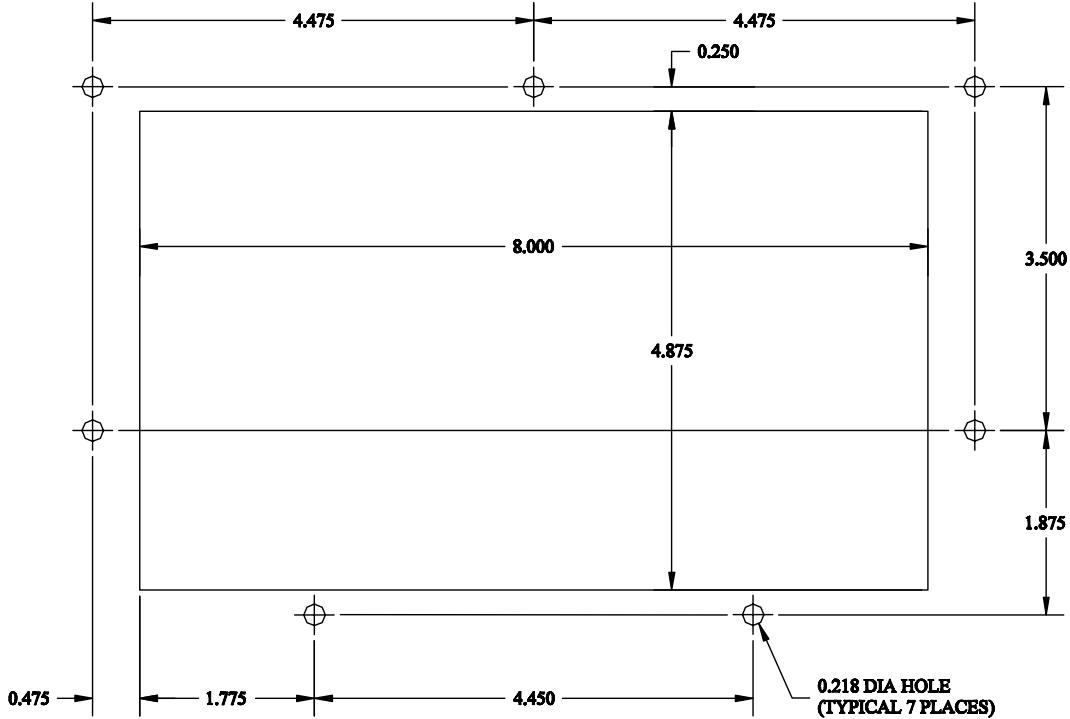

Figure 1 - D4591 Keypad/Display Recommended Panel Cut-out
- 1) Referring to the recommended cut-out in figure 1, cut a cut-out in the door of the HSL-WISVCUP enclosure.